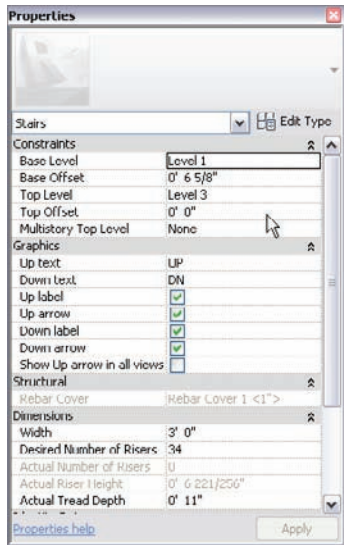

FIGURE 10.64 The Base Offset value is set to 6 5/8" (165mm).
2. Set Base Offset to 6 5/8" (165mm), as shown in Figure 10.64.